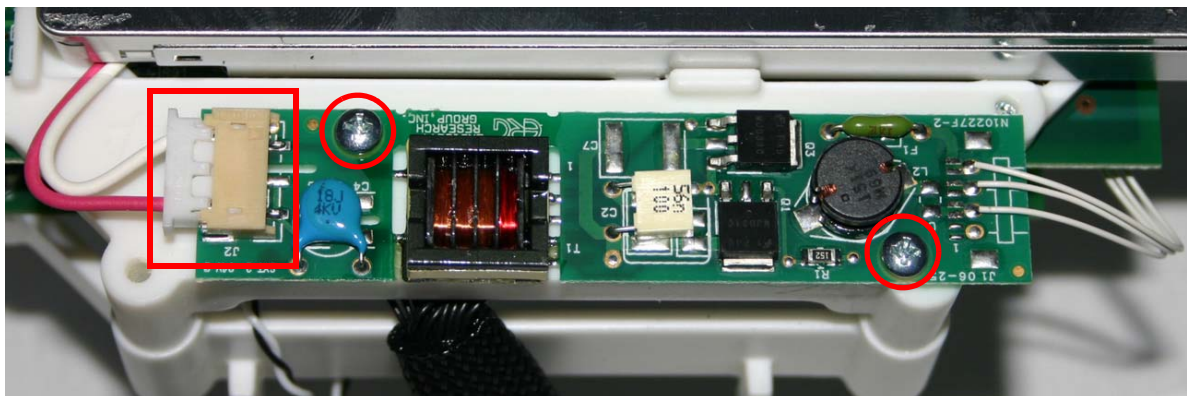

FIGURE 8-25: LOCATION J2 ON THE PCA INVERTER & SCREW LOCATIONS
3. Remove the two screws securing the PCA Inverter to the Power Management Board Support. Refer to Figure 8-25.